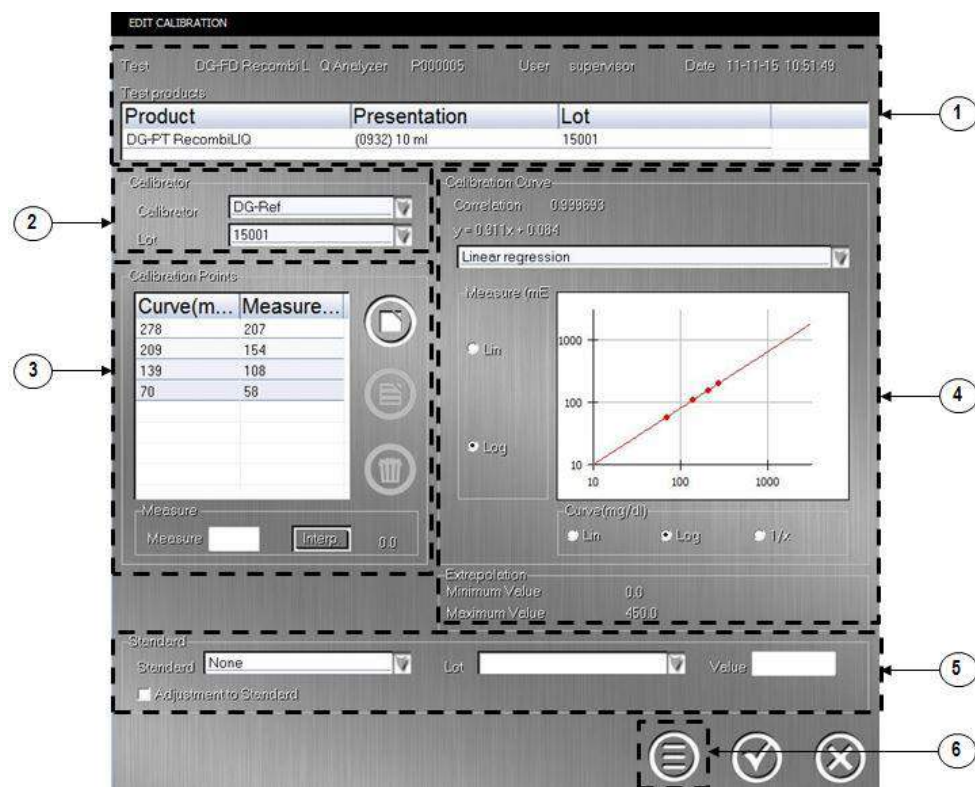

Figure 10.9. Edit Calibrations Window
- Select the **Presentation** and the **Lot** in the respective drop-down menus in the window and press **Accept**. The program displays a window similar to the one in Figure 10.9.